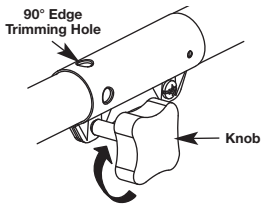

Fig. 10
3. Turn the knob clockwise to tighten (Fig. 10).
For decorative trimming/edging with the line head cutting attachment, lock the release button of the cutting attachment into the 90° hole (Fig. 10).
CAUTION: Lock the release button in the primary hole (Fig. 10) and securely tighten the knob before operating this unit.